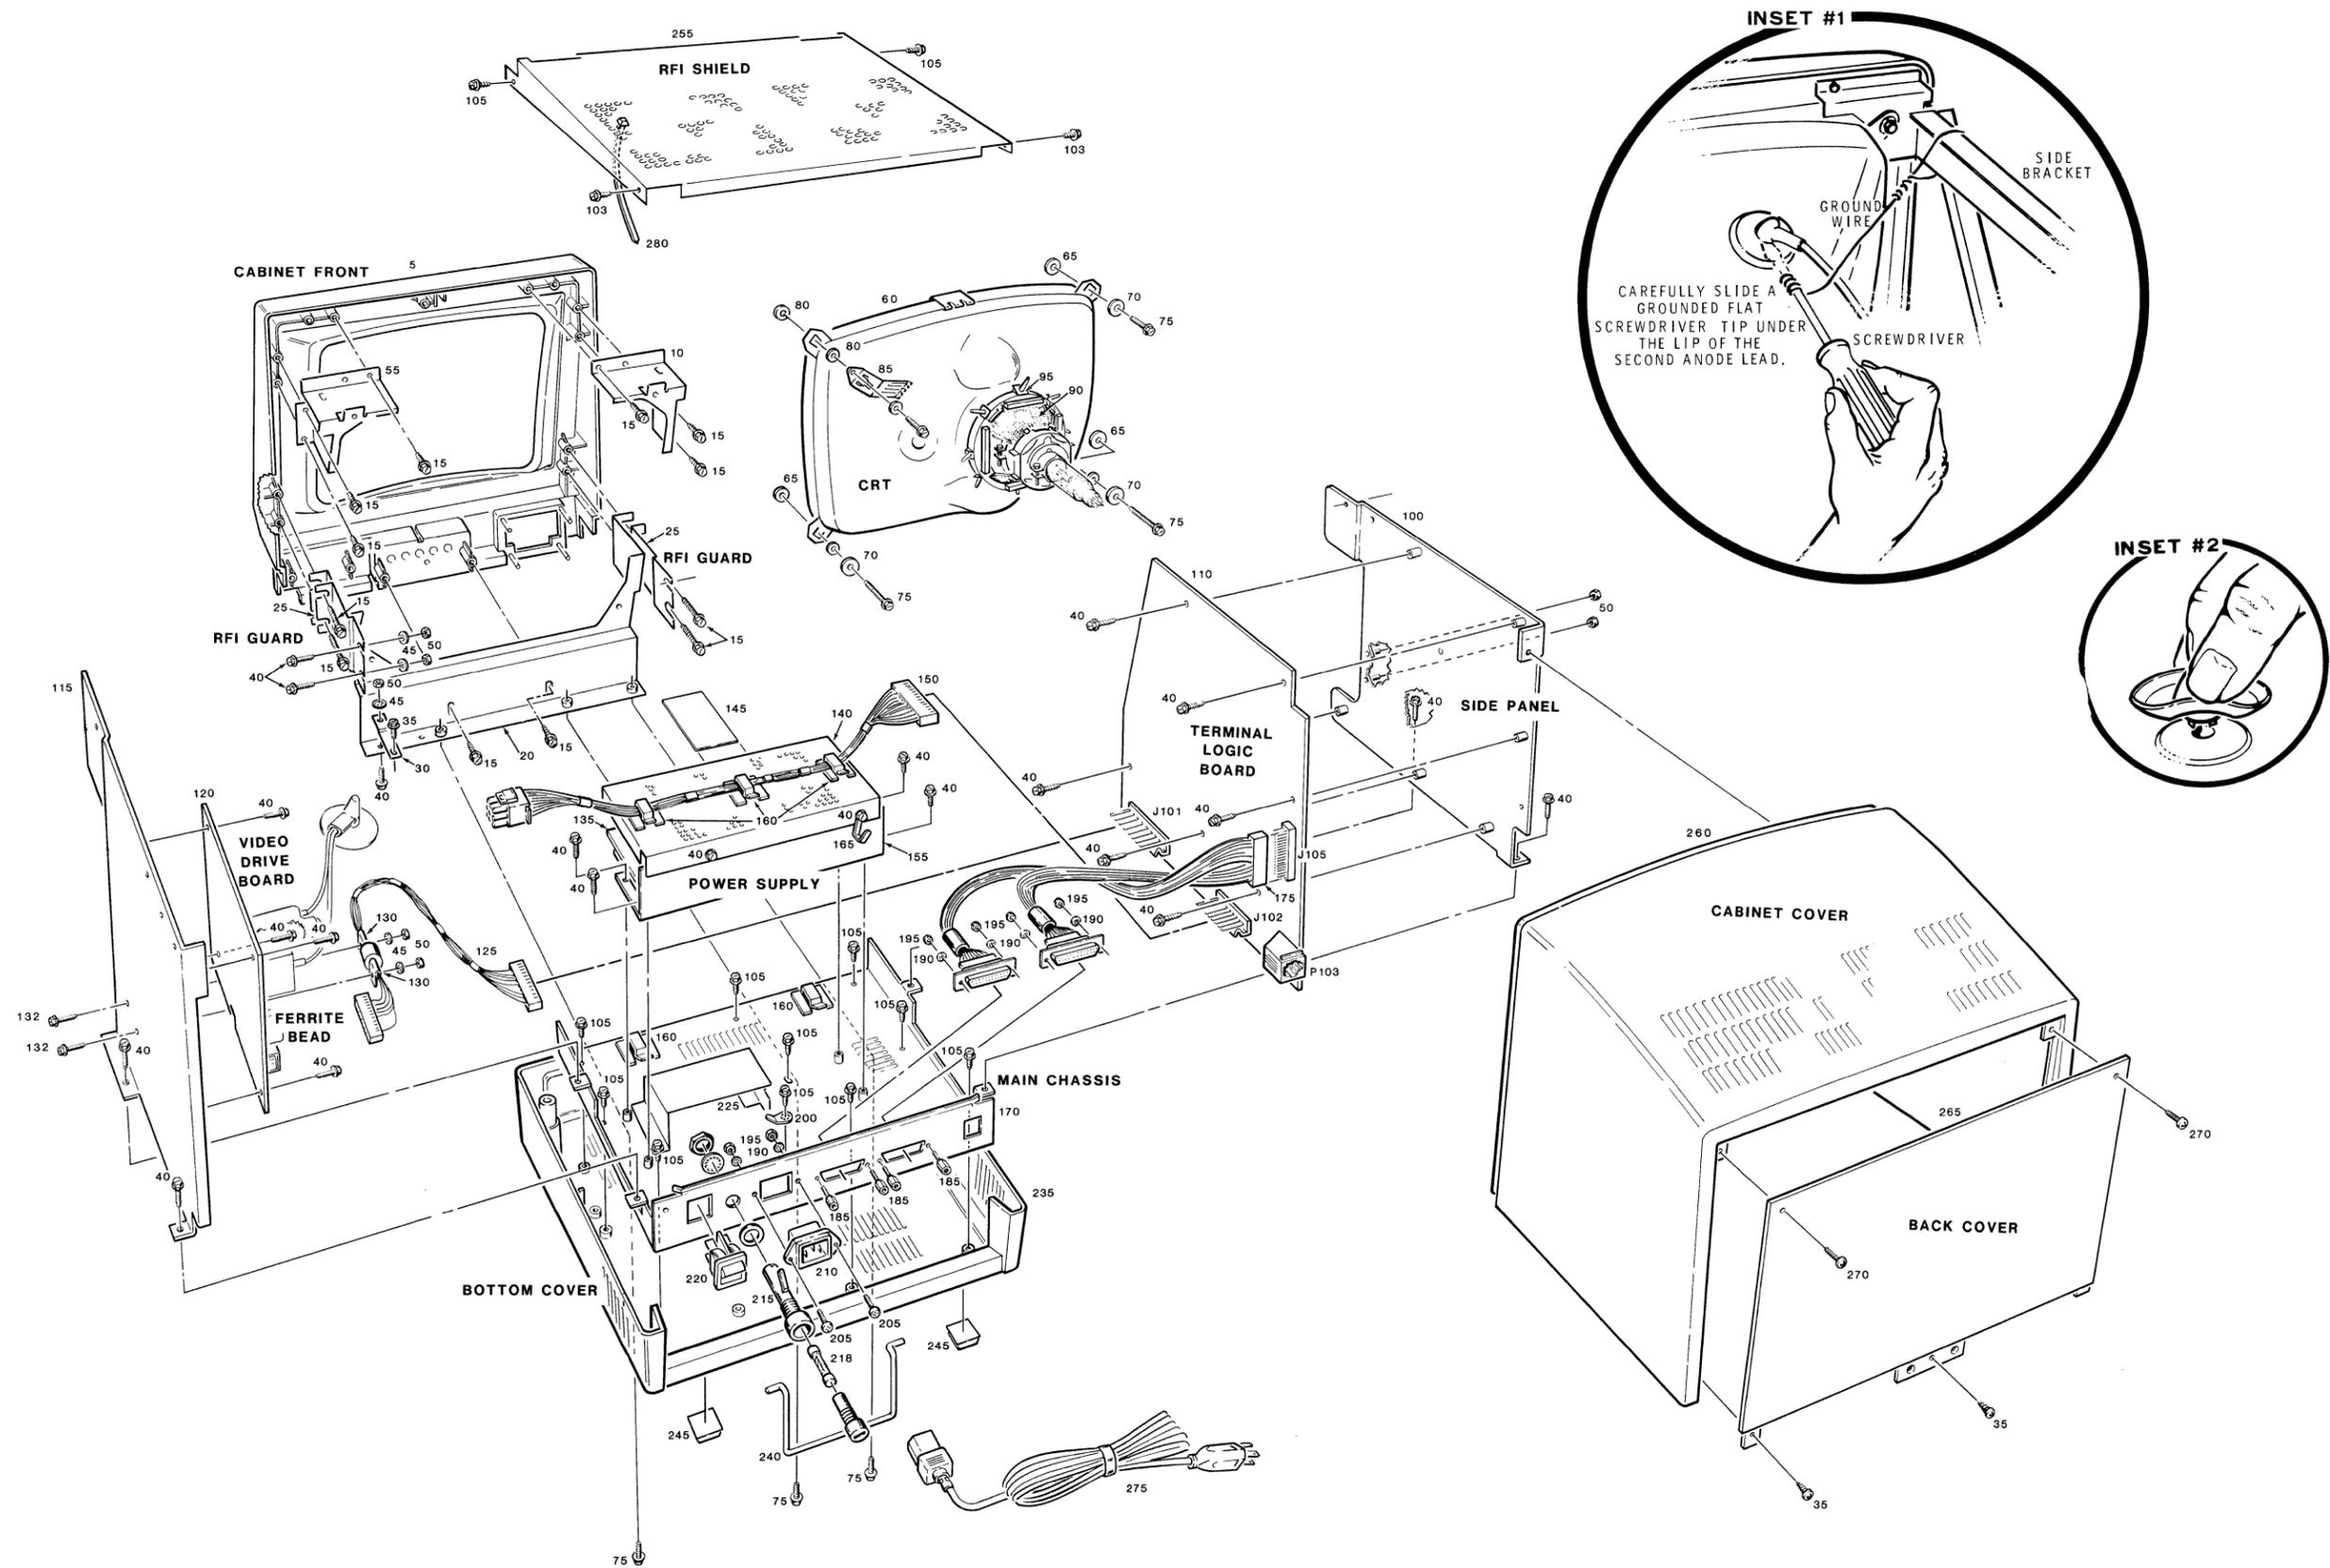

Figure 5.2. Disassembly
Figure 5.2 has the major units labeled which are referenced in the disassembly procedures. All components are numbered and may be identified in the "Parts List," Chapter 8.
To remove the terminal logic board for servicing, refer to Figure 5.2, the foldout at the end of this chapter, while performing the following steps.
To remove the video circuit board for servicing, refer to Figure 5.2 while performing the following steps.
5. Refer to the inset drawing #1 on Figure 5.2 and discharge the CRT as shown.
6. Refer to the inset drawing #2 on Figure 5.2 and disconnect the anode lead from the CRT.
7. Carefully unplug the CRT socket from the neck of the CRT. Then disconnect the black ground wire from the CRT ground clip (85) at the upper right-hand corner.
8. Unplug the red/blue two-wire cable from VERT YOKE and the yellow/black two wire cable from HORIZ YOKE on the video drive board (120).
9. Loosen the two 6-32 × .375" screws (40) securing the lower right RFI guard (25) to the right side panel (115).
To remove the power supply for servicing, refer to Figure 5.2 while performing the following steps.
To remove the CRT for servicing, refer to Figure 5.2 while performing the following steps.
7. Remove the video display board (120) as previously described.